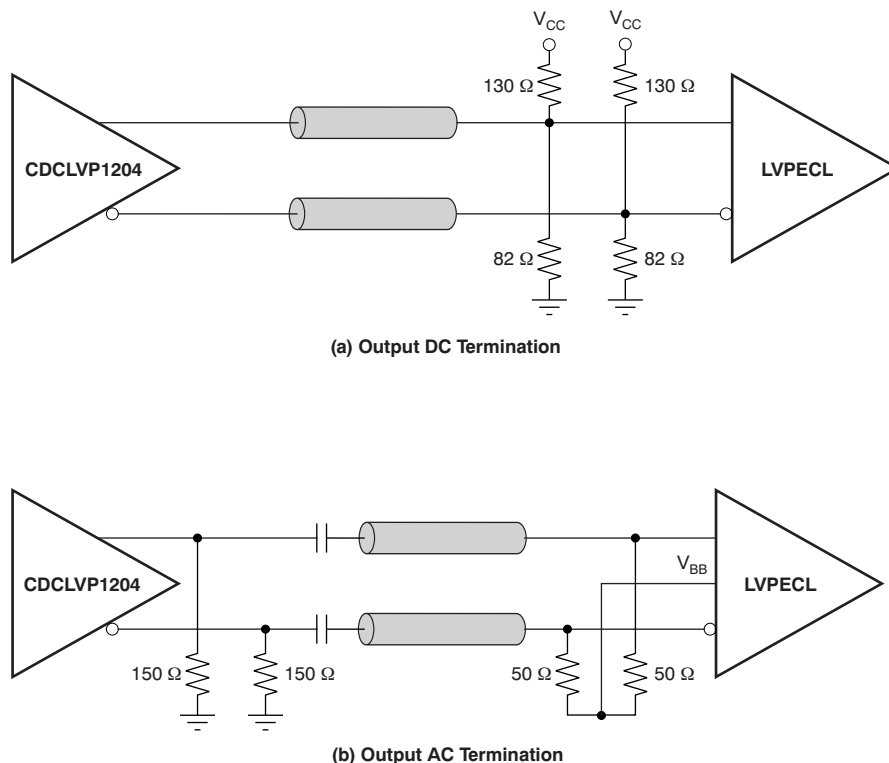

Figure 13. LVPECL Output DC and AC Termination for $V = 3.3 V_{CC}$
The CDCLVP1204 is an open emitter for LVPECL outputs. Therefore, proper biasing and termination are required to ensure correct operation of the device and to minimize signal integrity. The proper termination for LVPECL outputs is a $50\ \Omega$ to $(V_{CC} - 2)$ V, but this DC voltage is not readily available on PCB. Therefore, a Thevenin equivalent circuit is worked out for the LVPECL termination in both direct-coupled (DC) and AC-coupled configurations. These configurations are shown in Figure 12 (a and b) for $V_{CC} = 2.5$ V and Figure 13 (a and b) for $V_{CC} = 3.3$ V, respectively. It is recommended to place all resistive components close to either the driver end or the receiver end. If the supply voltage for the driver and receiver is different, AC coupling is required.